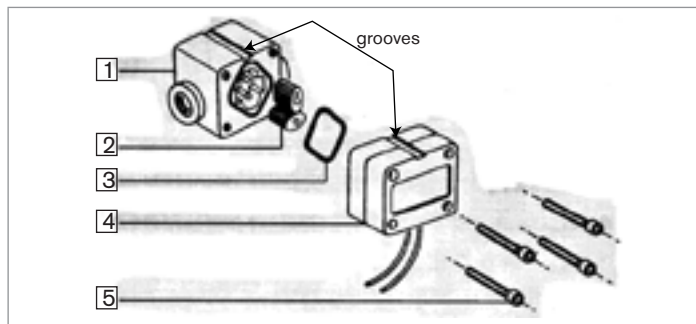

Fig.8 Exploded view of the 8071 sensor
- Unscrew the 4 screws (mark 5 Fig.8) and remove the cover (mark 4 Fig.8).
- Remove the seal (mark 3 Fig.8).
- Remove the rotors (mark 2 Fig.8).
→ Replace the seal (mark 3 Fig.8).
! Align the groove on the cover with the one of the body (see Fig.8).
→ Replace the cover (mark 4 Fig.8).
→ Tighten the 4 screws (mark 5 *Fig.8*) in an alternating pattern at the following torque: